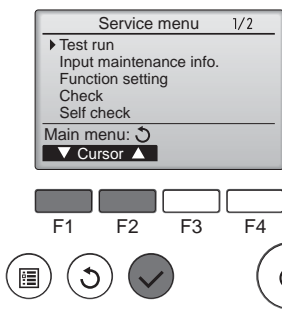

Fig. 5-3
- ③ Select "Test run" with the or button, and press the button. (Fig. 5-3)